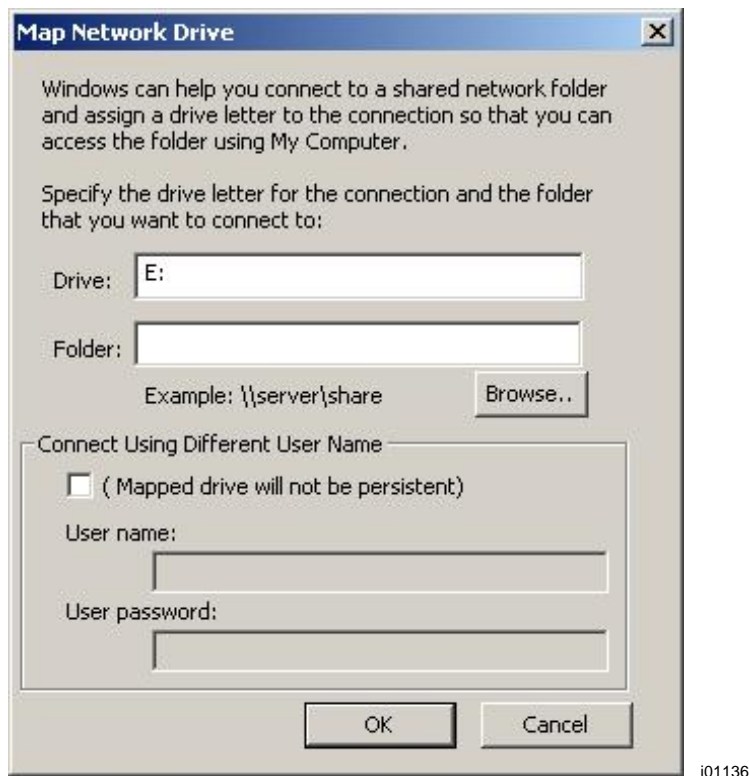

Figure 13.12.6 Enter E: in the Drive box and Browse for the file you shared on your computer.
3. In the Drive box, type in "E:" You must type in both the "E" and the ":". See Figure 13.12.6 below. (Drive letters A through D are used by other drives.)